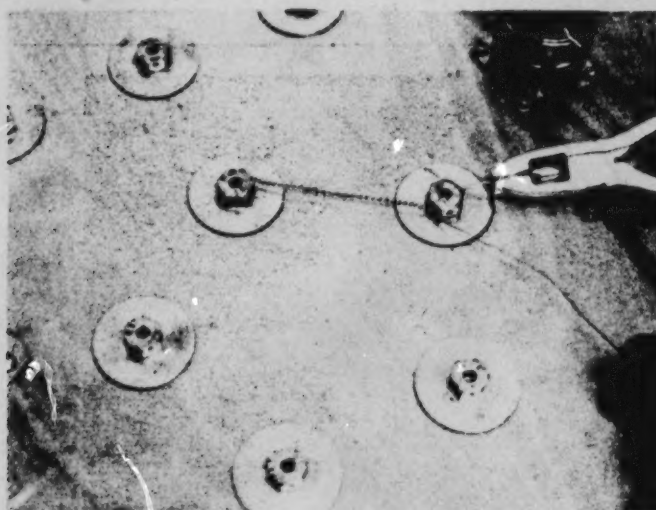

Figure 14. Make sure the Wire is Tight.
12. Grasp the end of the wire with the safetywire pliers. Pull it through the hole until the twisted part between the two bolt heads is tight (figure 14). CAUTION: Do not allow the wire to kink as you pull it through the hole, don't pull it too tight as it might break.